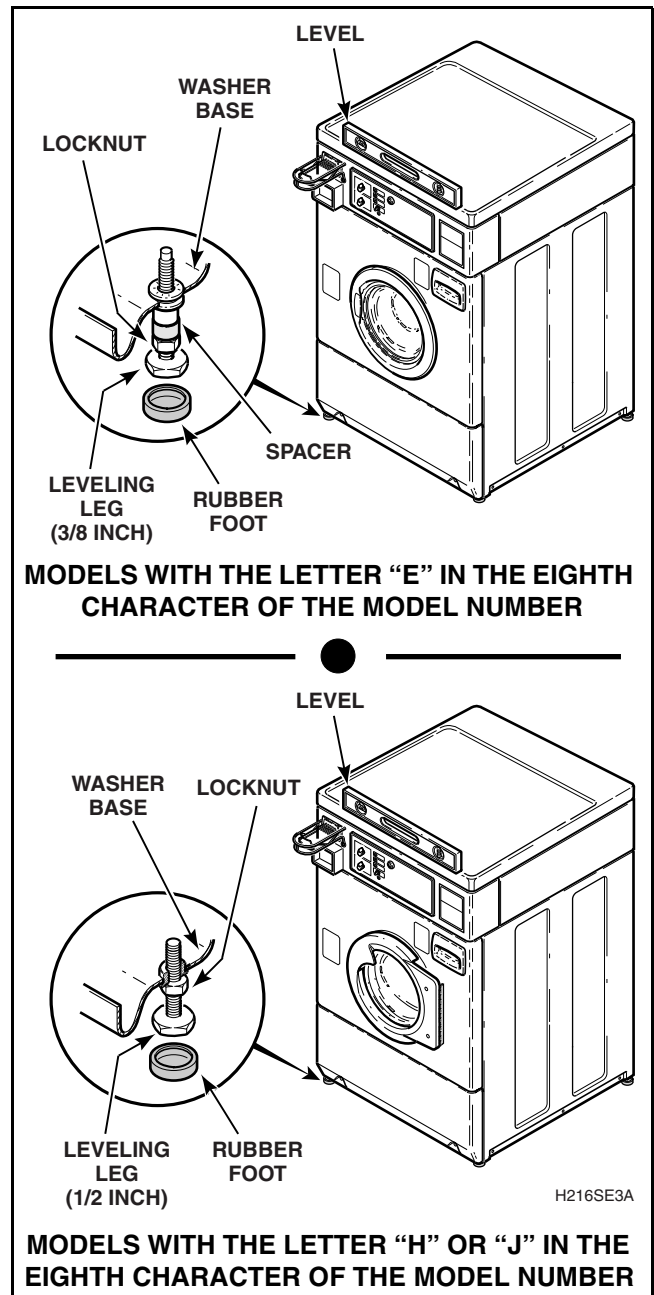

Figure 75
- Loosen locknuts and adjust the leveling legs until the washer does not rock. Refer to *Figure 75*.
**NOTE:** Level must rest on raised portion of top panel. Refer to *Figure 75*.
- Remove rubber feet from accessories bag and place on all four leveling legs. Refer to *Figure 75*.